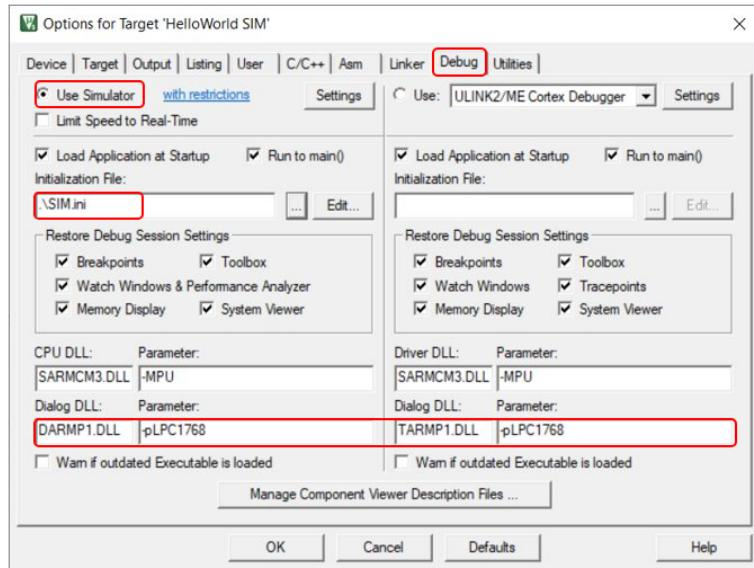

Figure 8.19: Keil IDE: Target Options Debug Tab Configuration
1. Open up the target option window and select “Use Simulator” in the Debug tab and set the Dialog DLL and Parameters as shown Figure 8.19. The debug script `SIM.ini` provided in the starter code (see Listing B.1 in Appendix B) is needed to map the second bank of RAM area read and write accessible inside the simulator.